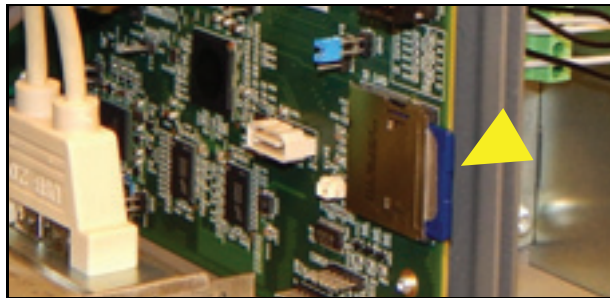

Figure 18. Locating SD card
3. Locate the SD card on the CPU board (see Figure 18).